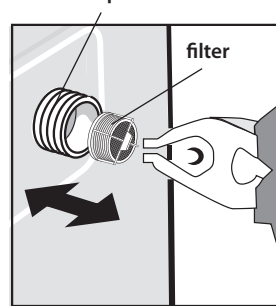

Figure 19
- disconnect the filling hose from the solenoid-operated valve's threaded branch pipe in accordance with Fig. 19;
- extract the filter out of solenoid-operated valve's branch pipe with flat pliers or a forceps in accordance with Fig. 19;